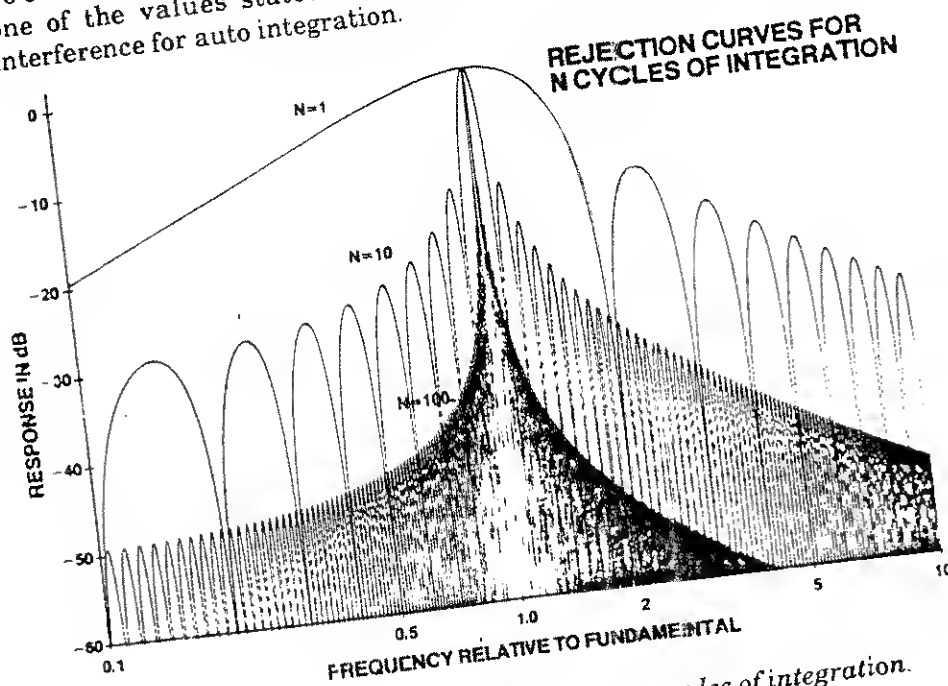

Fig 5.4 Noise and harmonic rejection v. cycles of integration.
- 2.1.1  **$\int$  TIME** Integration time. The period over which the analyzer measures the input signals. The duration of this period determines the harmonic and noise rejection ability of the analyzer. Defined in seconds, the time is rounded up or down to cover a whole number of cycles. Fig 5.4 shows how rejection increases with time.